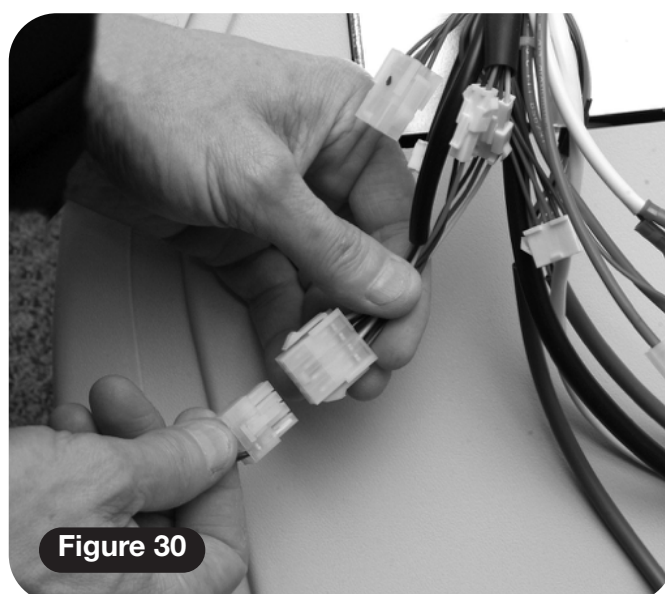

Figure 30
- 10 Connect the dummy seat toggle looms (**Figures 30, 31, 32 and 33**).